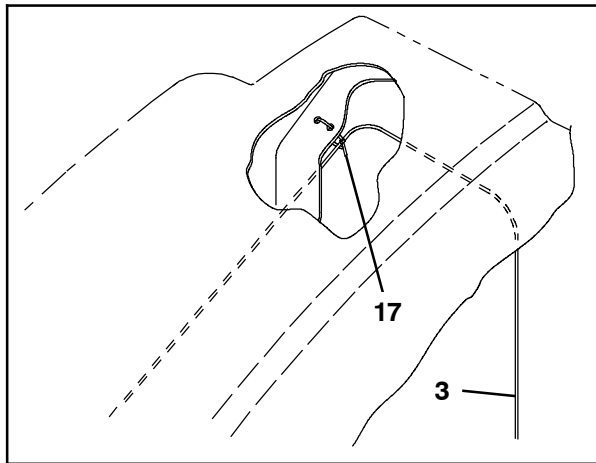

FIG. 7
23. Use a cable tie (17) to secure the antenna (3) cable to the hopper cover and close the hopper cover. (Fig. 7)